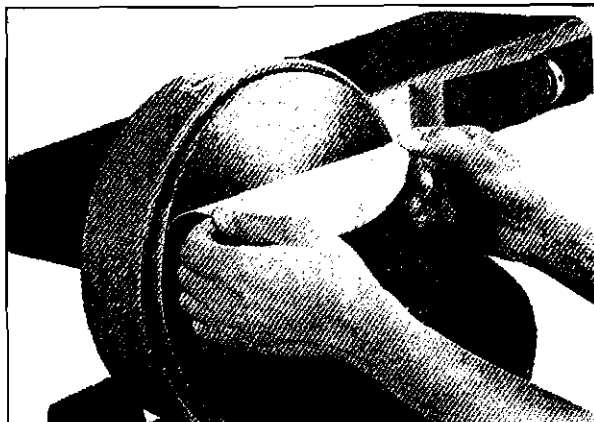

Fig. 11
**Step 2.** Center new disc on plate (Fig. 11). Some discs may not have adequate adhesive. There are many spray adhesives on the market for this purpose.